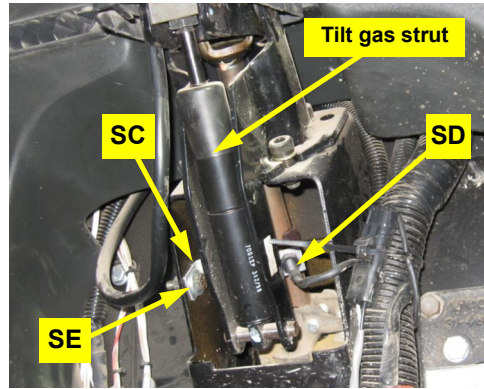

Figure 1d: Installed switch bracket and switch
- d. Attach switch **SD** to switch bracket **SC**. Using hardware **SE** install the switch/bracket assembly (Figures 1d and 1e). The bracket will pass between the steering shaft and the steering column tilt gas strut.
- d. Attach switch **SD** to switch bracket **SC** (Figure 1d). Remove the nut and bolt securing the right side of the steering shaft bearing block below the lower universal joint (Figure 1d inset). Using this nut and bolt, install the steering switch bracket under the bearing block mounting (Figure 1d).
Figure 1d with inset: Installed switch bracket and switch